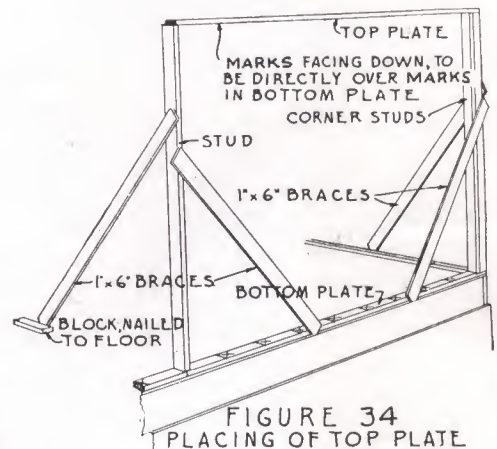
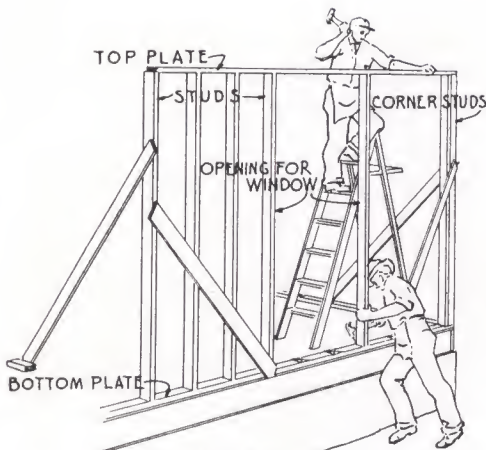

FIGURE 34
FIGURE 35
- (c) Then put on the top plate, which must be marked first for the location of studs as described in paragraph 25-c. Be sure that the marks on this top plate match those on the bottom plate (see Figure 34). Toe-nail the bottom end of the studs to the bottom plate, setting left side of studs in line with marks on plate. At the top of the studs nail through the top plate into the top ends of the studs. Then put in the other studs in this section of wall, being sure to leave out the studs where door or window openings are to go. You will find it easier if one man works on the floor, toe-nailing the studs to the bottom plate, while the other one works on a step ladder, nailing through the top plate into the top ends of the studs (see Figure 35).